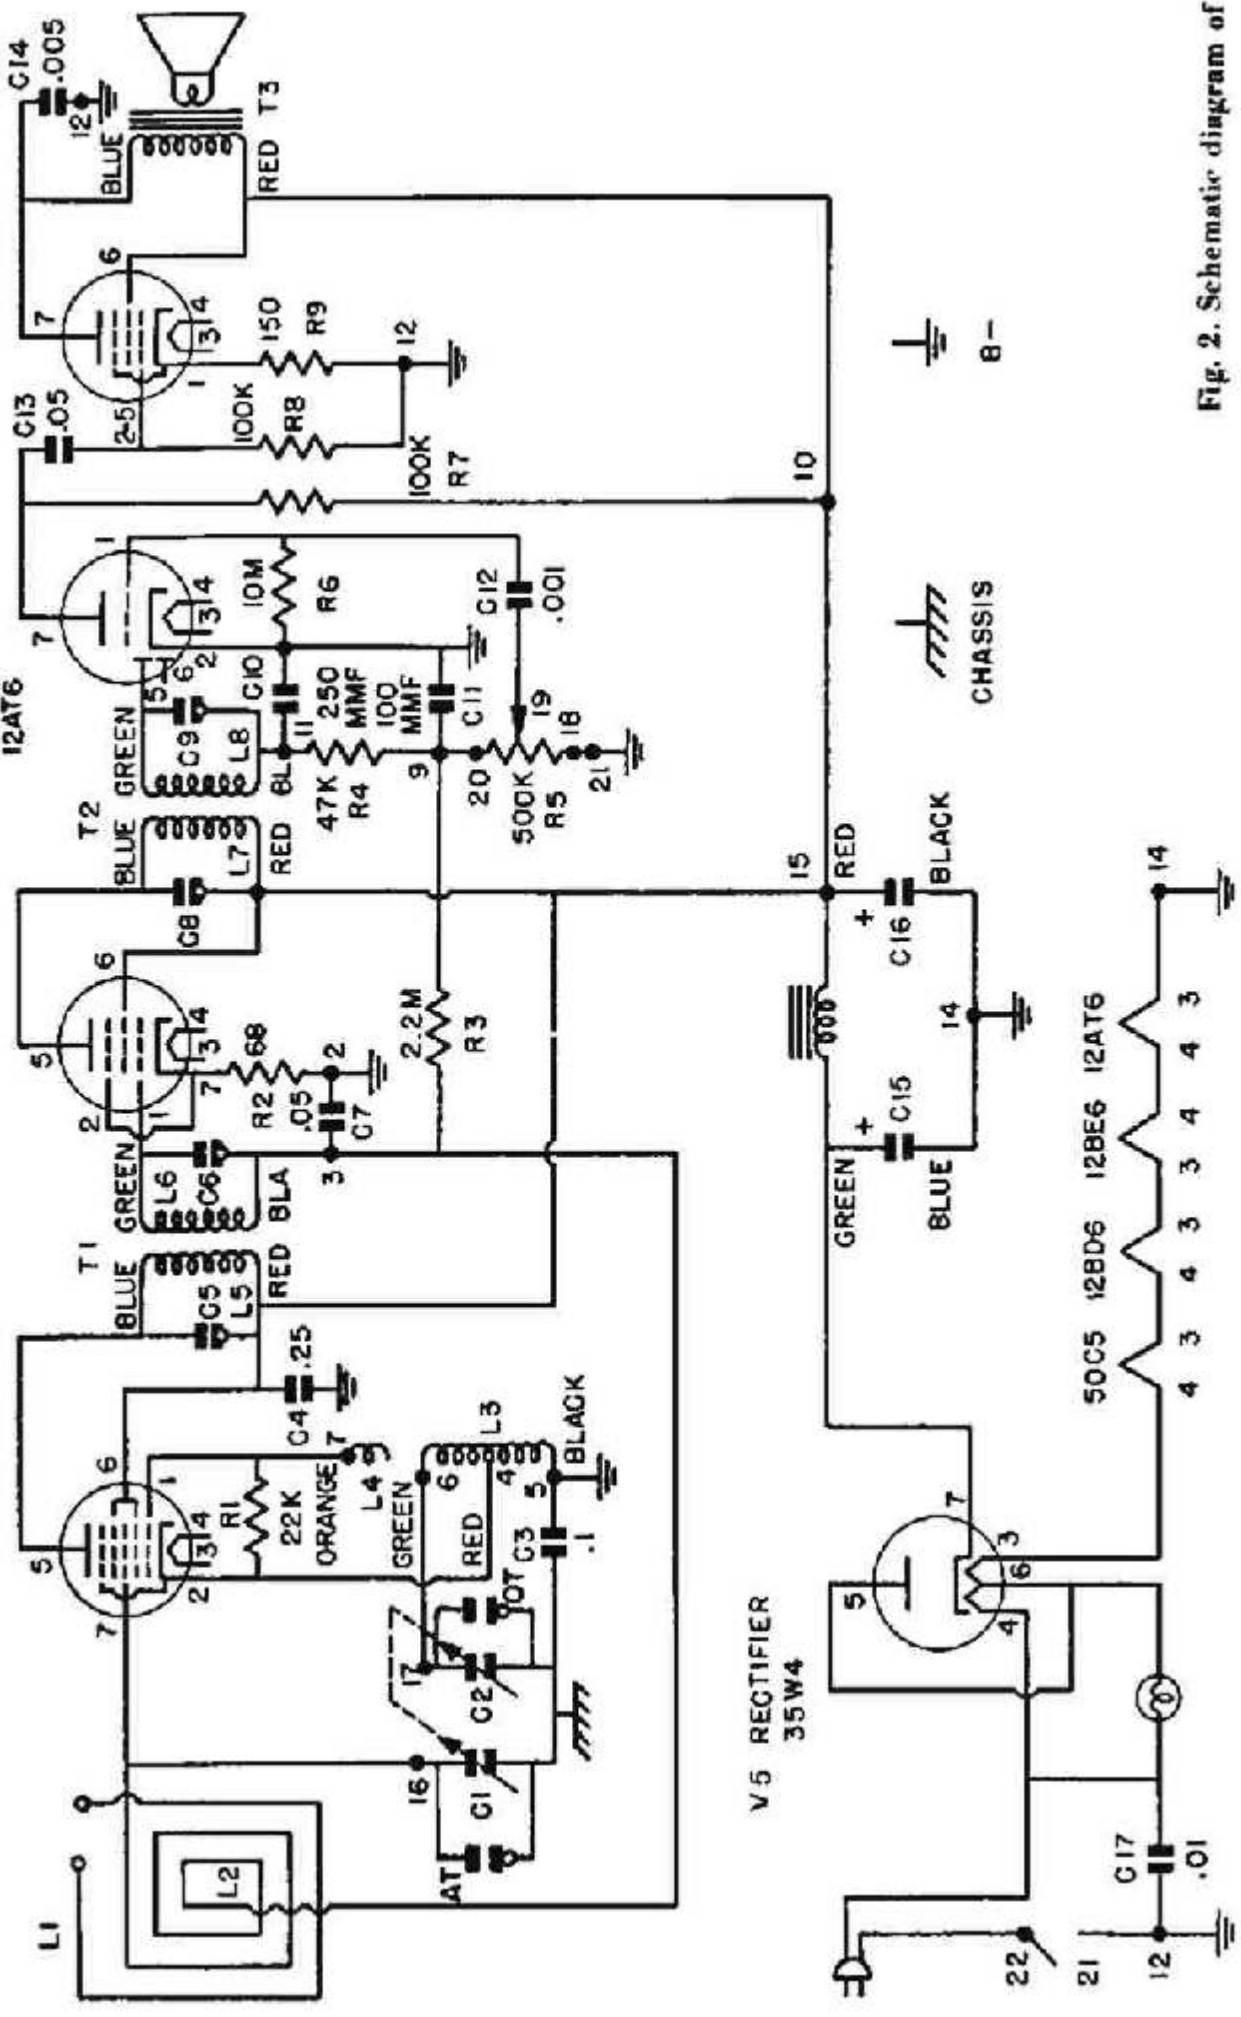

Fig. 2. Schematic diagram of a typical AC-DC radio receiver.
The following alignment procedure is presented as an example that can be used for aligning receivers when instructions are not available, if the manufacturers alignment data is available, it should be used. Fig. 2 shows a typical AC-DC broadcast receiver; Use this schematic to follow the alignment steps.
2. Connect a DC voltmeter across the volume control. You could, of course, use one of the other response indicators discussed previously. The volume control in Fig. 2 is the 500K potentiometer, R5. Connect the voltmeter to terminals 20 and 18. The high end of the volume control will have a negative potential so set the meter to read DC on the 3-volt scale.
CS, and C9 in Fig. 2, in many receivers, the IF adjustments are made by moving an iron core slug in the IF coil. As you adjust for maximum response, keep attenuating the input signal as necessary to keep the voltmeter reading on scale.
12. Set the Signal Generator Band switch and tuning control to the frequency indicated by the receiver dial. Adjust the oscillator trimmer (OT) for maximum reading on the response indicator. The oscillator trimmer is a screwdriver adjustment on the tuning capacitor. C2 in Fig. 2, Also adjust the antenna trimmer (AT) mounted on section C1 of the tuning capacitor gang for maximum output.